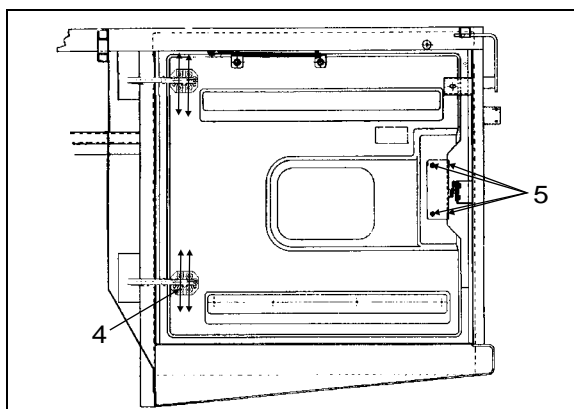

FIGURE 75: ENGINE COMPARTMENT R.H. DOOR
8. Loosen screws (4, Fig. 75).
6. Adjust the door in accordance with the required distance between exterior finishing parts (Fig. 75).
8. Adjust the door position according to the distance required between exterior finishing parts (Fig. 75).